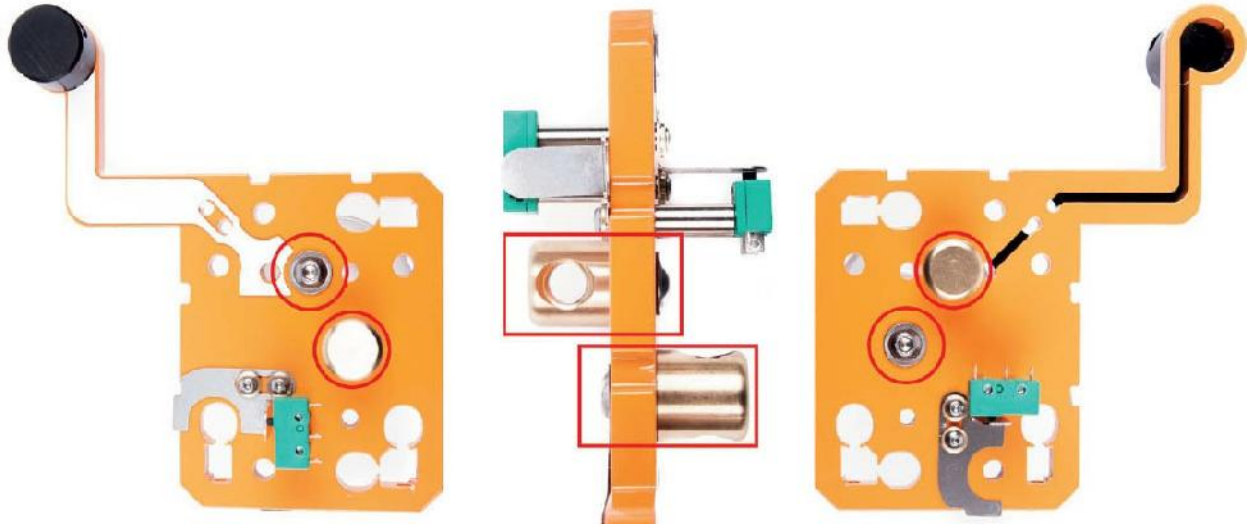

Fig. 2.9 *The mounted lead screw nuts*
11. Use 10 mm M6 bolts to attach the lead screw nuts to the X-Z connector. The lead screw nuts are slotted and only fit in one direction in the appropriate holes. You only have to take care to mount them on the correct side of the X-Z connector (see figure 2.9).